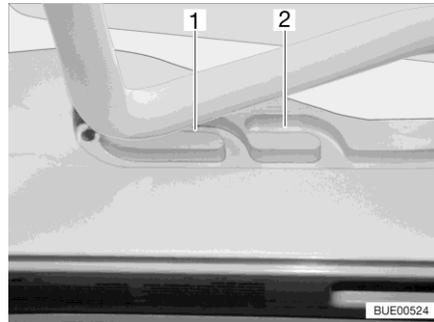
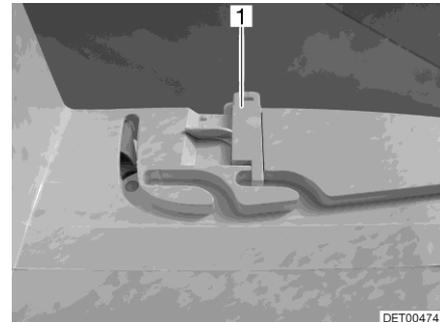

Fig. 117 Guide (ventilation position)
Fig. 118 Lock (ventilation position)
The Heki skylight can be put in two ventilation positions: Bad weather position (Fig. 117,1) and central position (Fig. 117,2). Depending on the model, the skylight can be locked in the central position with both left and right latches (Fig. 118,1) on the skylight frame.
- Push the bar slightly upwards and into the selected guide (Fig. 117,1 or 2) and lock if necessary.